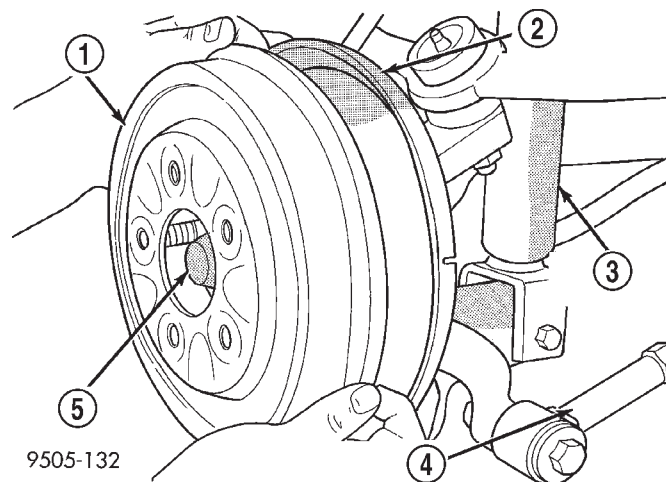

Fig. 117 Brake Drum Removal
(3) Remove any drum retainer clips from the wheel mounting studs.
(4) Remove rear brake drum from the rear hub and bearing assembly by pulling it straight off the wheel mounting studs (Fig. 117).